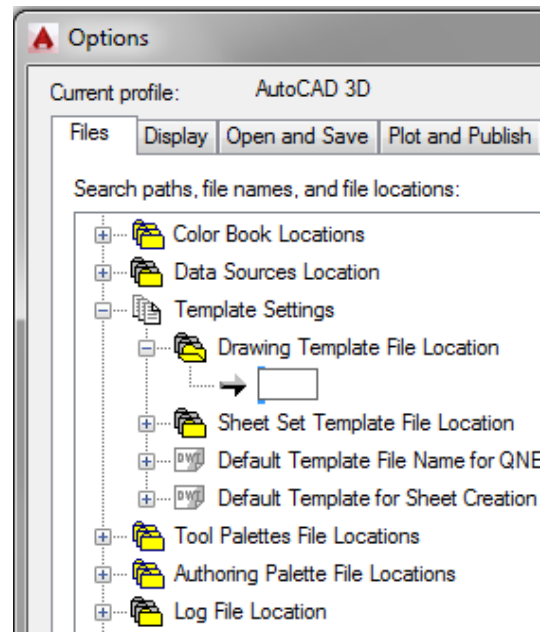

Figure Step 22
Step 22 It will display an empty box as shown in the figure. (Figure Step 22).